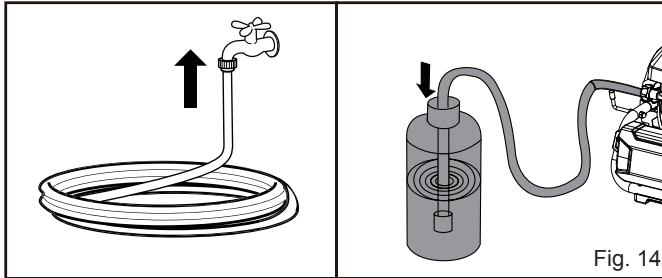

Fig. 14
- Connect the water supply hose to water tap, or put the water supply hose with filter into the water tanks or natural sources (Fig. 14).